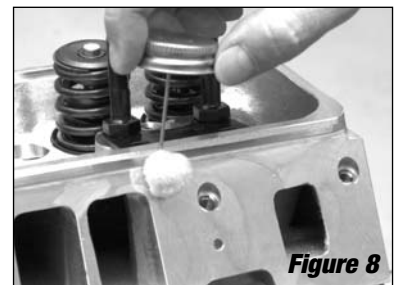

Figure 8
2. Coat head surface and cylinder head side of intake gaskets with Edelbrock Gasgacinch #9300 (**See Figure 8**).